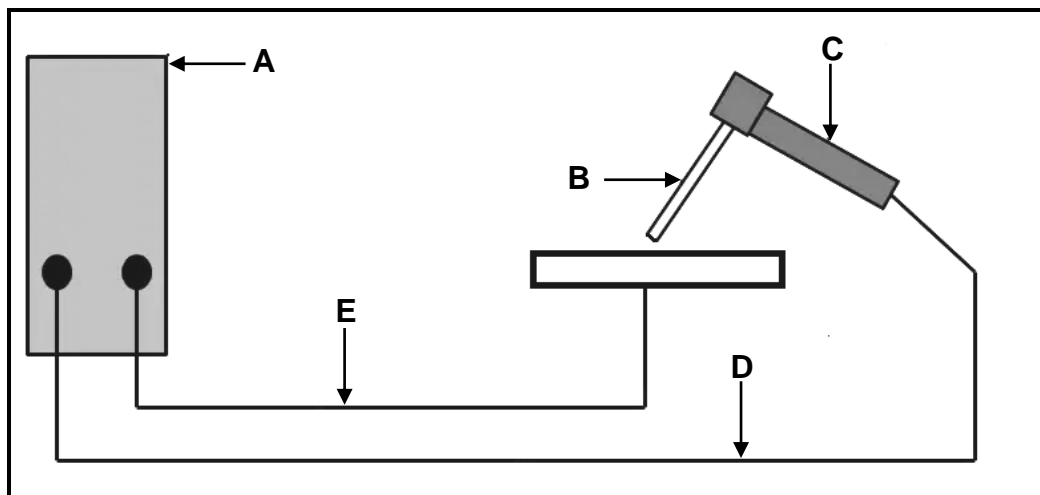

FIGURE 6.3
6.3 FIGURE 6.3 below shows an arc welding set-up.